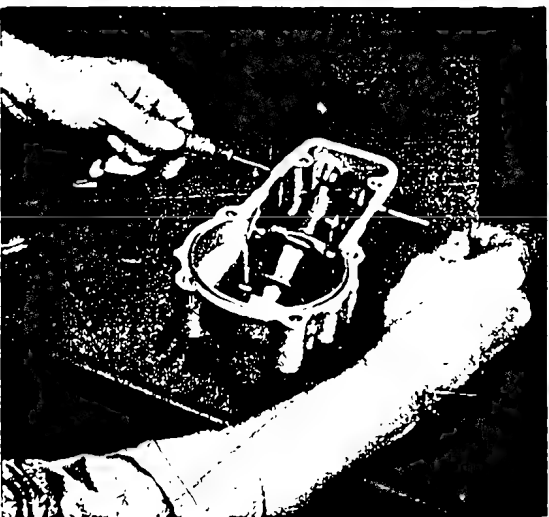

Fig. 12 Removing the lever spindle
2.2. 6. Unscrew the two closure plugs (38) at the top of the housing cover and push out lever spindle (37) (Fig. 12).